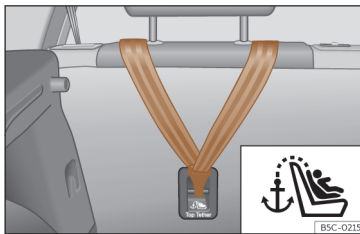
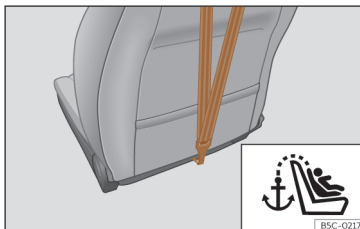

Fig. 40 Rear part of the rear seats: Top Tether belt anchor.
Fig. 41 Rear of front passenger seat backrest: Top Tether belt anchor (not available in all markets/versions).
is located on the rear of the rear seat backrest and of the front passenger seat backrest¹⁾ (identified with the symbol ) and provides better retention >>> **Fig. 40**, >>> **Fig. 41**.
- Slide the belt and secure it properly with the anchor on the rear seat backrest >>> **Fig. 40**, >>> **Fig. 41.**